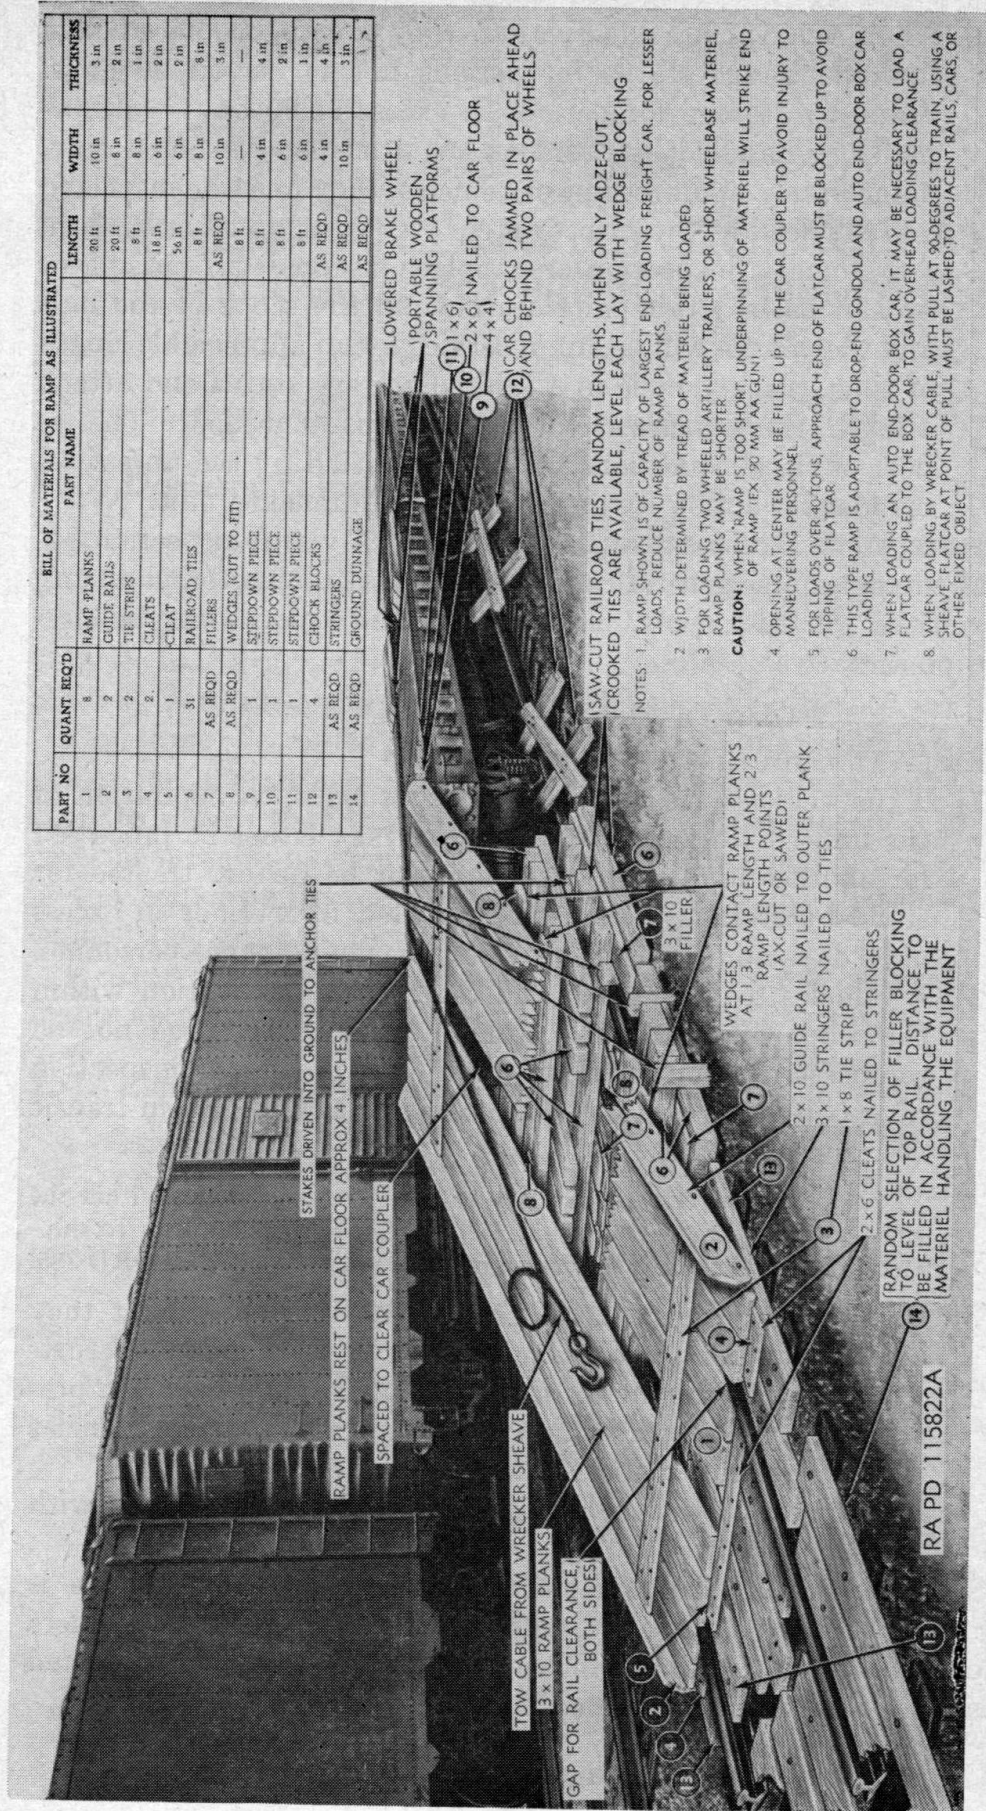

Figure 73. Construction of improvised loading ramp.
- (b) When unboxed vehicles must be loaded from ground level, a ramp may be improvised ((4) below) by borrowing railroad ties normally found stacked in railroad yards and by procuring necessary planking. An ideal end ramp is shown in place in figure 73.
loading of most ordnance items is shown in figure 73. Length of planking must be determined with consideration to under-chassis clearance, in order to clear the hump at upper end of ramp.